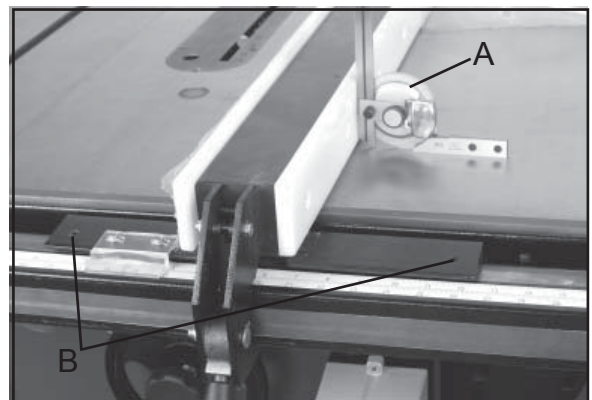

Figure 15
2. Place a square (A, Fig. 15) on the table next to the fence. The fence should be 90° to the table.
3. If adjustment is necessary, unlock the fence, and turn one of the two nylon adjustment screws (B, Fig. 15) until the fence is 90° to the table.